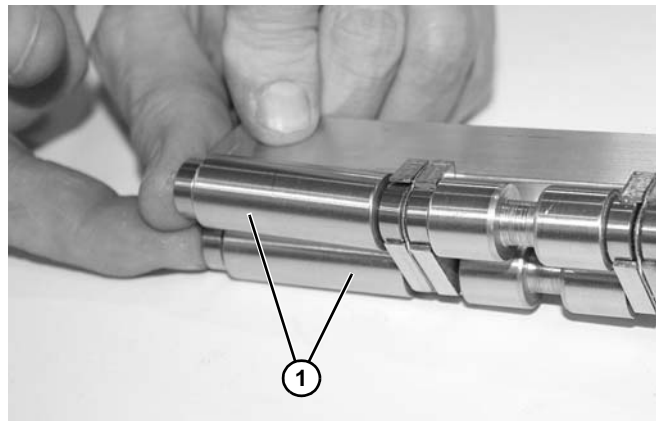

Figure 101
7. Remove spindles (**Figure 101, item 1**).